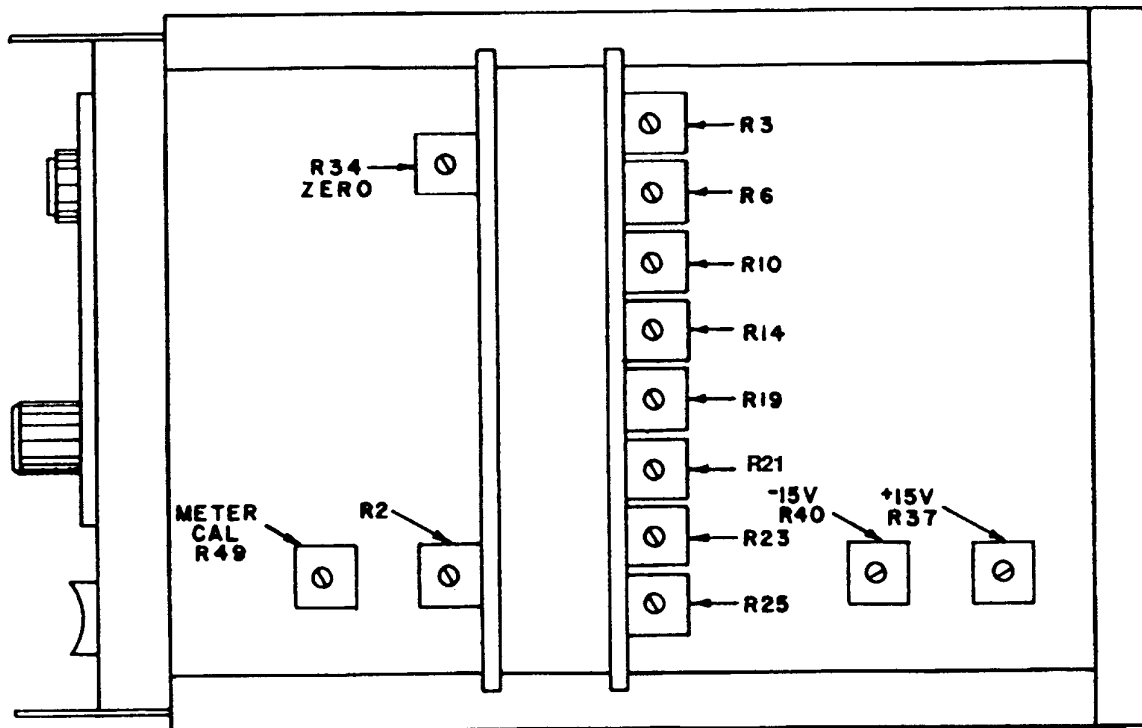

Figure 1. AN/URM-145C.
- (4) Connect frequency counter low lead to TI chassis.
- (5) Connect frequency counter high lead to TI A5E1.
- (6) Adjust R2 (fig. 1) for a frequency counter indication between 92 and 96 Hz (R).
- (7) Disconnect TI from frequency counter and calibrator.
- (8) Set TI **RANGE** switch to **.001 VOLTS**.
- (9) Disconnect TI RF probe from calibrator.
- (10) Zero TI meter with **ZERO** control.
- (11) Set TI **RANGE** switch to **.3 VOLTS** and adjust R34 **ZERO** (fig. 1) for TI meter indication of 0.
- (12) Set **RANGE** switch to **3.0 VOLTS**.
- (13) Connect TI probe to calibrator **WIDEBAND OUTPUT**.
- (14) Adjust calibrator voltage controls for 3.0 V ac output at 50 kHz.
(15) Adjust **METER CAL R49** (fig. 1) for a TI indication between 2.7 and 3.3 V ac (ideal 3.0 V ac) (R).
(16) Set **RANGE** switch to **.001 VOLTS**.
(17) Disconnect RF probe from calibrator.
(18) Zero TI meter with **ZERO** control.
(19) Connect probe to calibrator **WIDEBAND OUTPUT**.
(20) Adjust calibrator for 1 mV ac output and then adjust **R3** (fig. 1) for a TI indication between .00085 and .001 15 V ac (ideal .001 V ac) (R).
(21) Set **RANGE** switch to **.003 VOLTS**.
(22) Disconnect RF probe from calibrator.
(23) Zero TI meter with **ZERO** control.
(24) Connect RF probe to calibrator **WIDEBAND OUTPUT**.
(25) Adjust calibrator for 3 mV ac output and then adjust **R6** (fig. 1) for a TI indication between .0027 and .0033 V ac (ideal .003 V ac) (R).
(26) Set **RANGE** switch to **.1-VOLTS**. Adjust calibrator for .10 V ac output and then adjust R19 (fig. 1) for a TI indication between .09 and 0.11 V ac (ideal .1 V ac) (R).
(27) Set **RANGE** switch to **.3 VOLTS**. Adjust calibrator for .3 V ac output and then adjust R21 (fig. 1) for a TI indication between .27 and .33 V ac (ideal .3 V ac) (R).
(28) Set **RANGE** switch to **.01 VOLTS**. Adjust calibrator for .01 V ac output and then adjust R10 (fig. 1) for a TI indication between .009 and .011 V ac (ideal .01 V ac) (R).
(29) Set **RANGE** switch to **.03 VOLTS**. Adjust calibrator for .03 V ac output and then adjust R14 (fig. 1) for a TI indication between .027 and .033 V ac (ideal .030 V ac) (R).
(30) Set **RANGE** switch to **1 VOLTS**. Adjust calibrator for 1 V ac output and then adjust R23 (fig. 1) for a TI indication between .9 and 1.1 V ac (ideal 1.0 V ac) (R).
(31) Set **RANGE** switch to **3 VOLTS**. Adjust calibrator for 3.0 V ac output and then adjust R25 (fig. 1) for a TI indication between 2.7 and 3.3 V ac (ideal 3.00 V ac) (R).